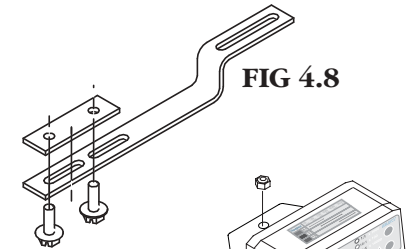

FIG 4.8
8. Place bolts in mount and spacer, then through bottom side of mounting surface, see FIG 4.8.